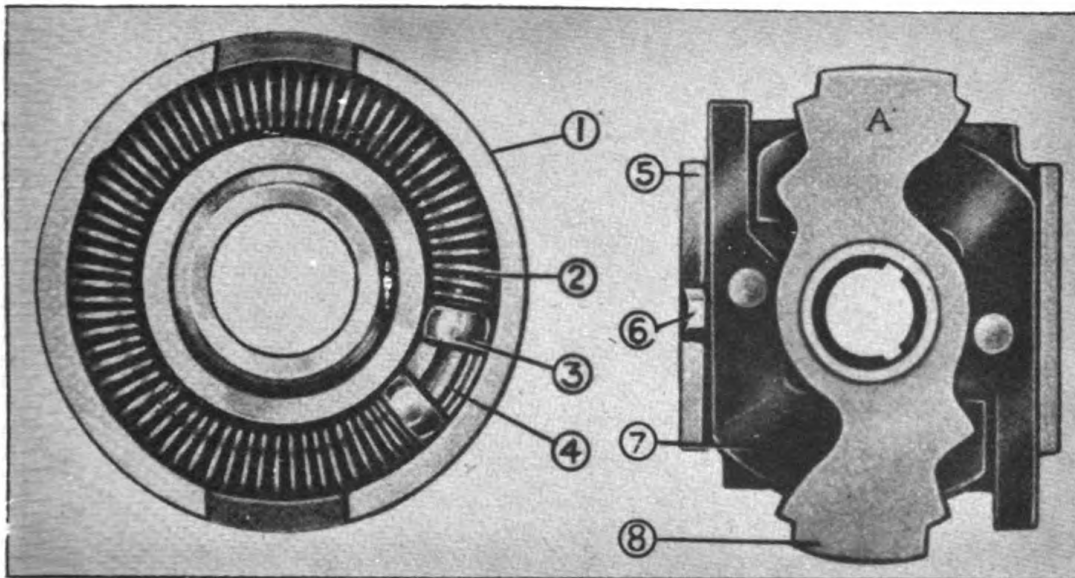

Figure 247. Reassembling Coupling.
A. Refer to Figure 247. Reassemble pins and spiral spring with felt wick to coupling housing. Pins must rest against groove in housing channel.